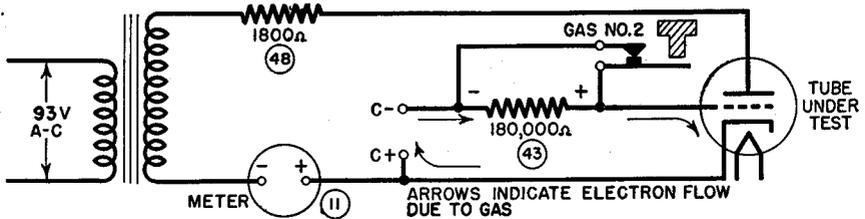

Figure 4. Tube Tester I-177, gas test circuit.
**16. GAS TEST (fig. 4).** Pressing GAS NO. 1 button applies definite values of plate and grid voltages to the tube under test, causing a definite value of plate current to flow. Pressing GAS NO. 2 button inserts 180,000-ohm resistor 43 in the grid circuit. If the grid bias voltage source is sending current through the grid circuit due to gas in the tube, this current develops a voltage drop across resistor 43 that reduces the negative bias, causing a corresponding increase in the plate current being measured by the meter. A tube with negligible gas gives less than a scale division of plate current increase when GAS NO. 2 button is depressed.